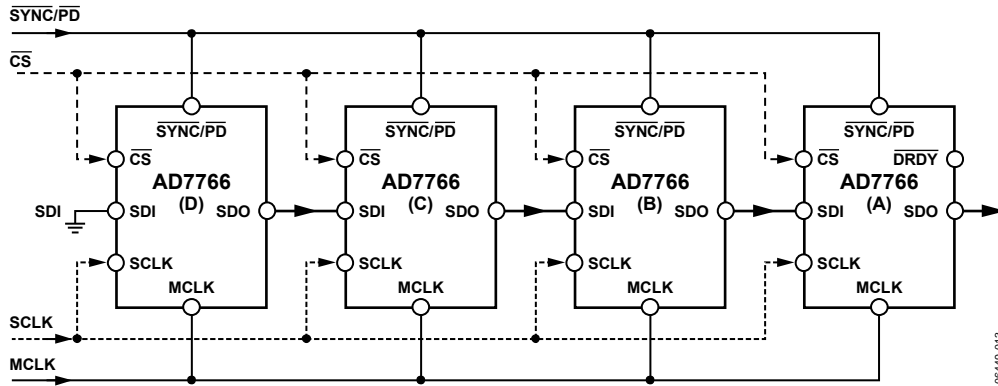
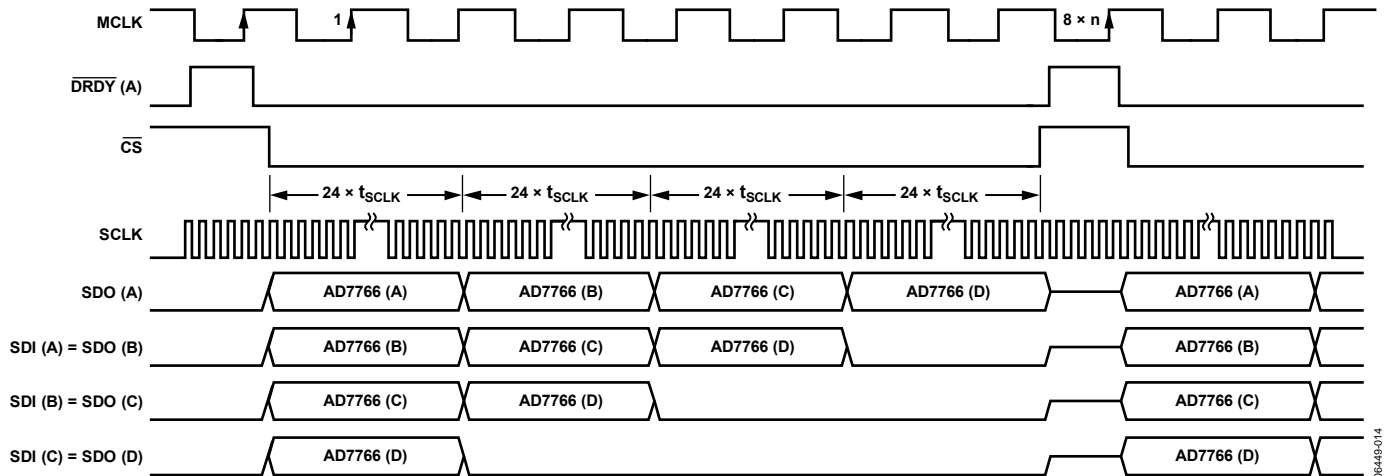
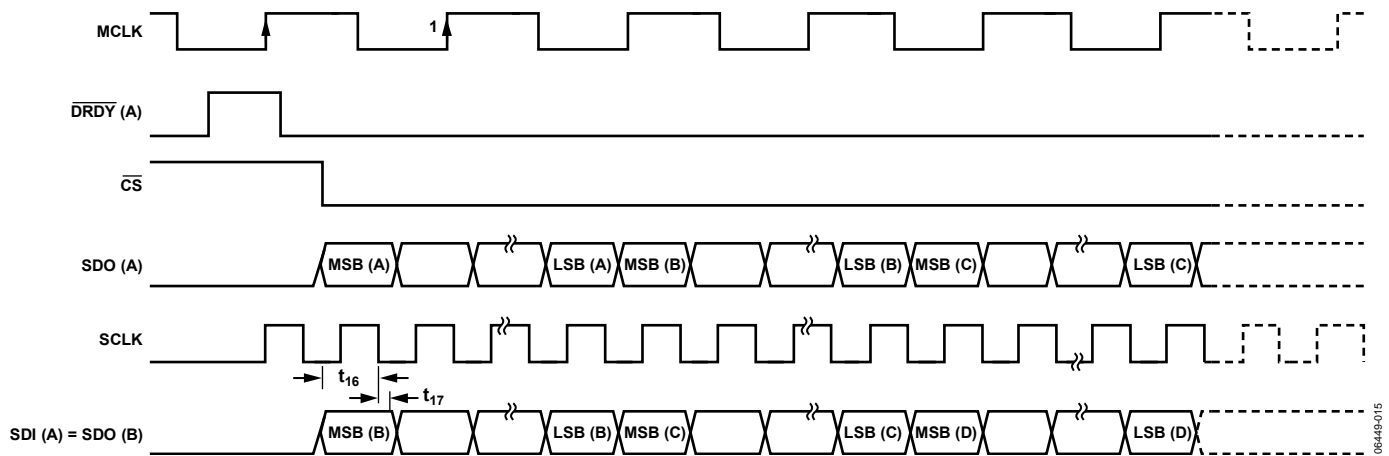

Figure 36. Daisy-Chain Configuration with Four AD7766 Devices
Figure 37. Daisy-Chain Timing Diagram ( $n = 1$  for AD7766,  $n = 2$  for AD7766-1,  $n = 4$  for AD7766-2) When Driving the AD7766
Figure 38. Daisy-Chain SDI Setup and Hold Timing
The block diagram in Figure 36 shows how devices must be connected to achieve daisy-chain functionality. The scheme shown operates by passing the output data of the SDO pin of an AD7766 device to the SDI input of the next AD7766 device in the chain. The data then continues through the chain until it is clocked onto the SDO pin of the first device in the chain.
An example of a daisy chain of four AD7766 devices is shown in Figure 36 and Figure 37. In the case illustrated in Figure 36, the output of the AD7766 labeled A is the output of the full daisy chain. The last device in the chain (the AD7766 labeled D) has its serial data input (SDI) pin connected to ground. All the devices in the chain must use common MCLK, SCLK,  $\overline{\text{CS}}$ , and  $\overline{\text{SYNC/PD}}$  signals.
After applying a  $\overline{\text{SYNC/PD}}$  pulse to all the devices, there is a delay (as listed in Table 7) before valid conversion data appears at the output of the chain of devices. As shown in Figure 37, the first conversion result is output from the AD7766 device labeled A. This 24-bit conversion result is followed by the conversion results from the devices labeled B, C, and D, with all conversion results output in an MSB-first sequence. The stream of conversion results is clocked through each device in the chain and is eventually clocked onto the SDO pin of the AD7766 device labeled A. The conversion results of all the devices in the chain must be clocked onto the SDO pin of the final device in the chain while its  $\overline{\text{DRDY}}$  signal is active low. This is illustrated in the examples shown (Figure 37 and Figure 38), where the conversion results from
As shown in Figure 37, the number of SCLK falling edges that occurs during the period when  $\overline{\text{DRDY}}$  (A) is active low must match the number of devices in the chain multiplied by 24 (the number of bits that must be clocked through onto SDO (A) for each device).